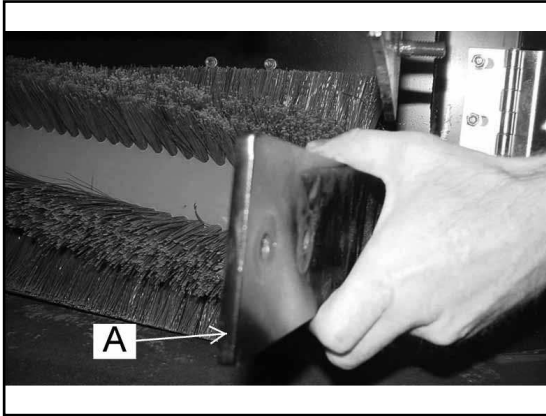
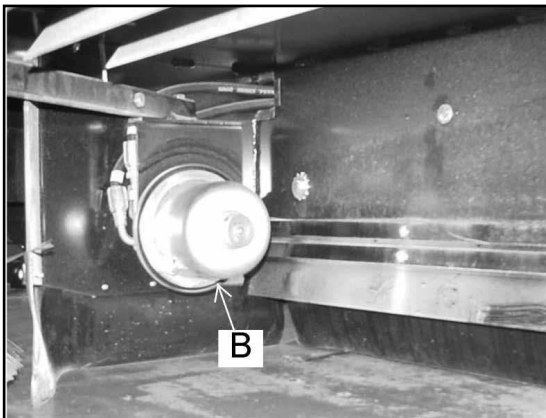

FIGURE 84
FIGURE 86
Remove broom lift arm (A) as shown in figure 84 and 85. Remove the main broom from the broom idler (B) exposing the main broom compartment as shown in figure 86. Check and clean out the main broom compartment before installing the new main broom. Slide the main broom onto the broom idler as shown in figure 87. Replace the broom lift arm and rotate the broom lift arm knobs (C) clockwise to tighten into place as shown in figure 88. Adjust the main broom to 1-1/2" to 2" sweep pattern.